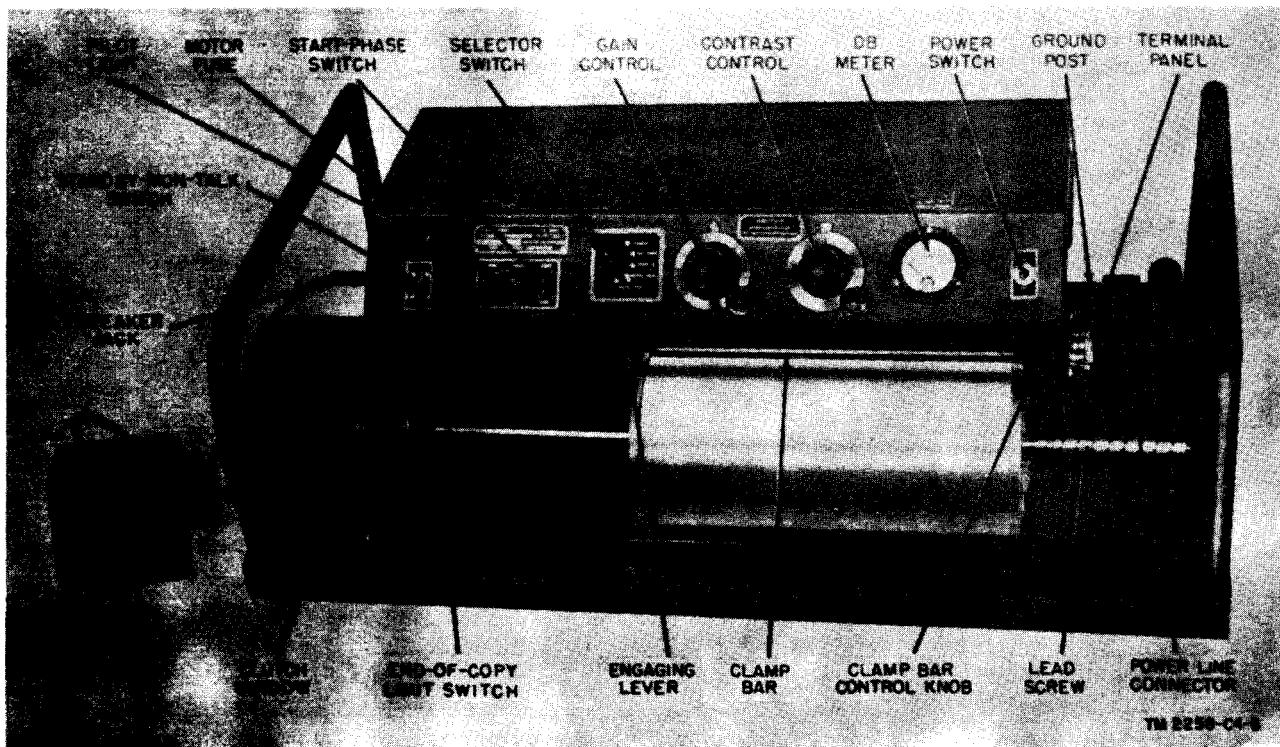

Figure 16. Controls, facsimile transceiver TT-1F/TXC-1.
- (2) The drum engaging lever (fig. 16) is located on the left side of the drum. It is used to engage the half nuts on the rotating drum with the lead screw,
c. *End-of-copy Limit Switch (S8).* A pressure-sensitive switch is mounted on the left-hand bearing block of Facsimile Transceiver TT-1F/TXC-1 (fig. 16). The drum, in its extreme left-hand excursion, will actuate this switch. This causes power to be removed from the synchronous drive motor and the amplified facsimile signal will